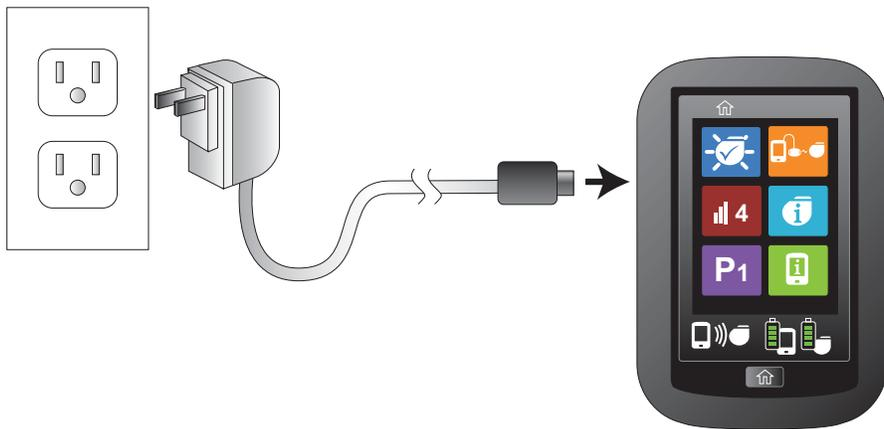

Figure 62. Connecting the AC power adapter
1. Connect the AC power adapter to the Programmer Charger (*Figure 62*) and plug the power adapter into a wall outlet.